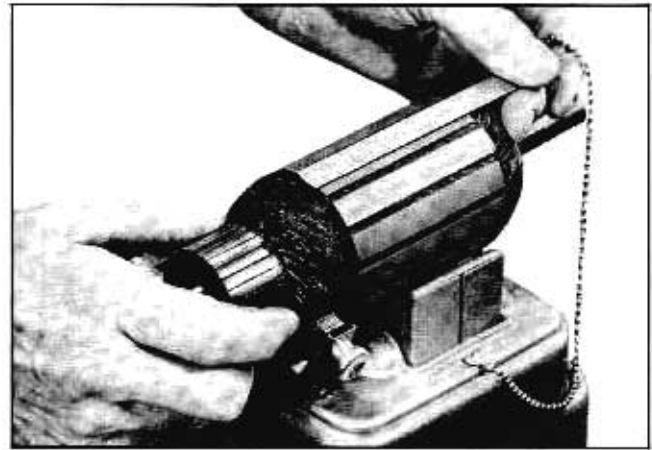

Fig. 11-8 Testing Armature for Shorts
- a. Check armature for shorts by placing on growler and with hack saw blade over armature core, rotate armature (Fig. 11-8). If saw blade vibrates, armature or commutator is shorted. Recheck after cleaning between the commutator bars and if saw blade still vibrates, armature is shorted and must be replaced.